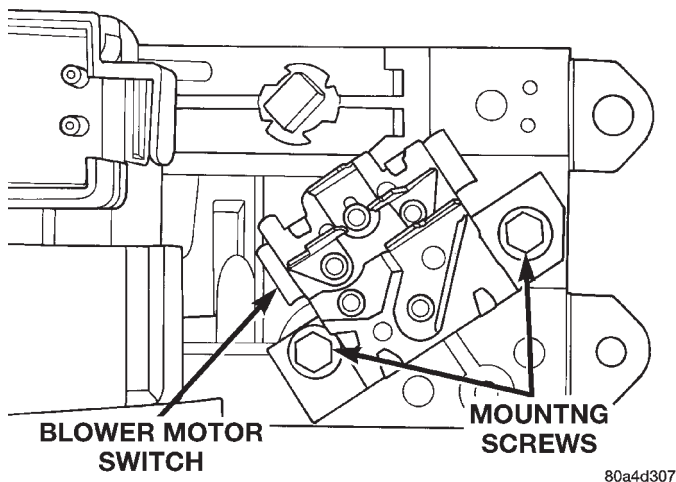

Fig. 39 Blower Motor Switch Remove/Install
(4) Remove the two screws that secure the blower motor switch to the rear of the heater-A/C control (Fig. 39).